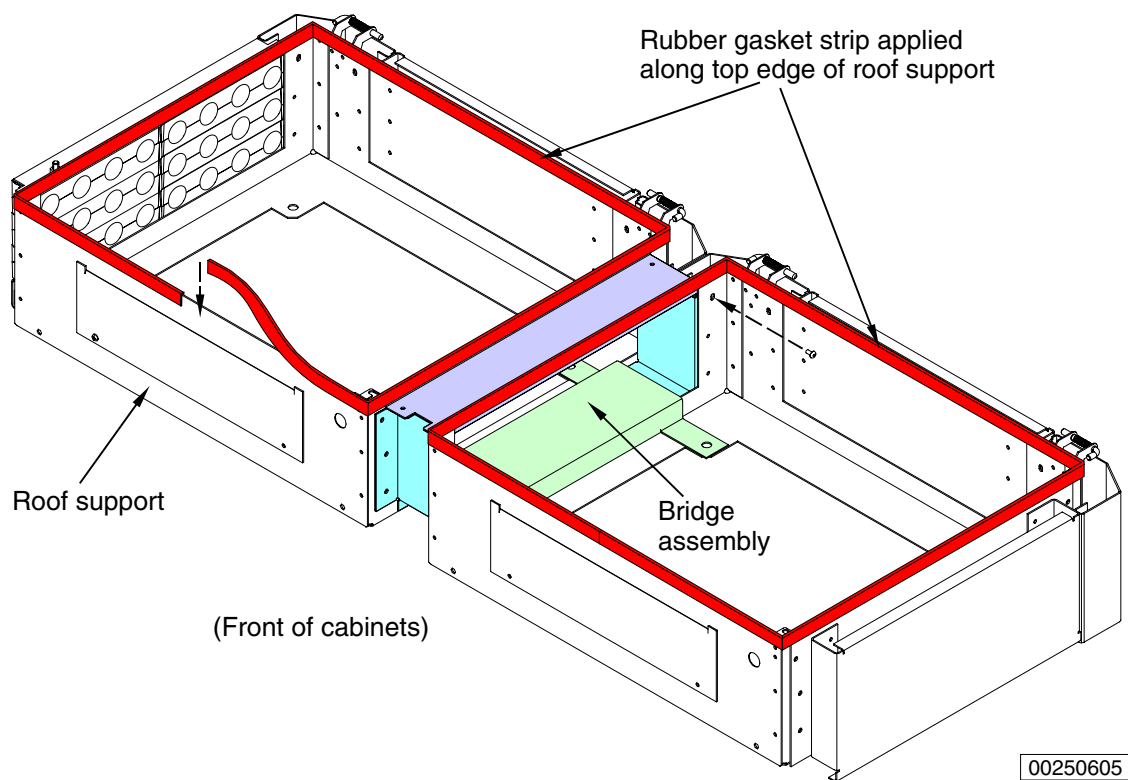

Figure 9. Installing the rubber gasket strip
8. Replace the rubber gasket strip on the top edge of the roof support walls. See Figure 9.